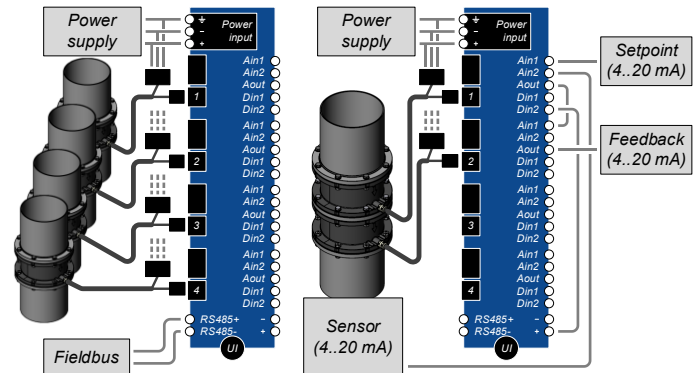

Figure 5: Example of interface panel setups
- Individual control of up to four fans through a single power and fieldbus connection (*Figure 5, left*).
- Analog synchronization of two or more fans for parallel or serial operation (*Figure 5, right*).